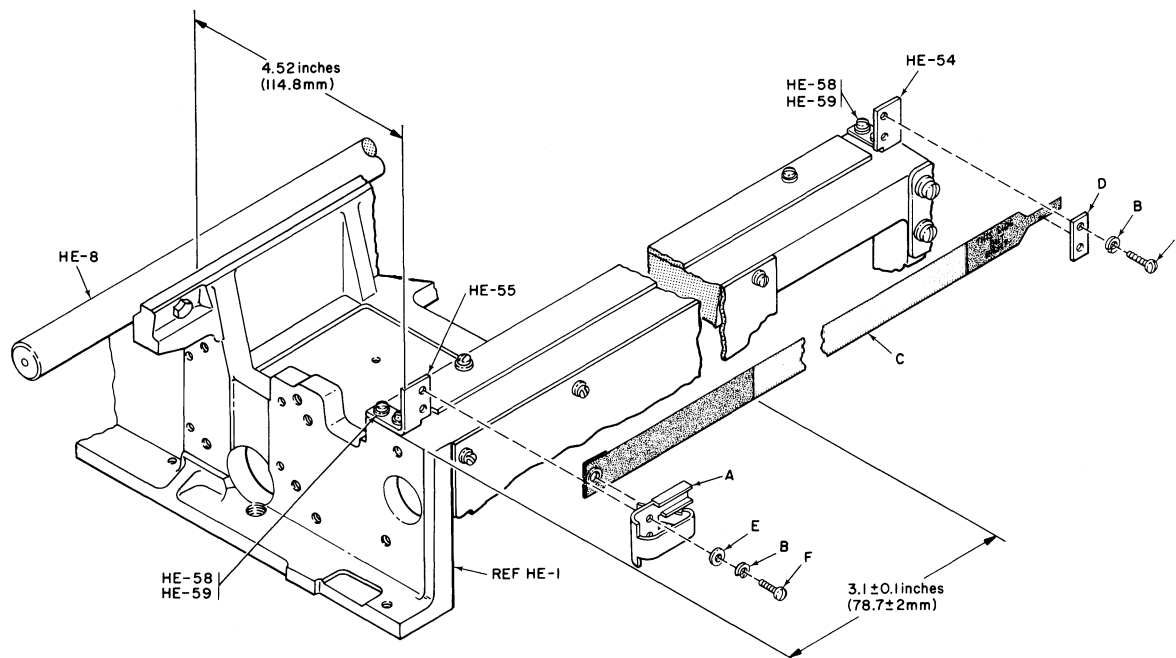

Figure 5-3. FLEXIBLE TIMING FENCE MOUNTING, SERIES 101
- A. The following removable parts are not described in a disassembly/assembly order but their locations are on the Frame (HE) drawing with their key numbers.
- B. Installation of Flexible Timing Fence 63002440 (Fig. 8-6 and Fig. 5-3)
1. Mount spring clasp (Fig. 5-3/A) on left bracket support (HE-55) using two screws (Fig. 5-3/F), two split lockwashers (Fig. 5-3/B) and two flat washers (Fig. 5-3/E). Clasp should be horizontal and perpendicular to printer machine casting (HE-1) when mounted on left bracket support (HE-55).
2. Mount right bracket clamp (Fig. 5-3/D) using two screws (Fig. 5-3/F) and two split lockwashers (Fig. 5-3/B).
3. Mount left side of flexible timing fence behind clasp (Fig. 5-3/A) by placing mounting hole over spring projection pointing towards back of printer.
4. Insert right side of flexible fence (tab end) between right clamp (Fig. 5-3/D) and right mounting bracket (HE-54). Right side surface of fence should read "THIS SIDE OUT, RIGHT" (facing operator).
1. Loosen screws (Fig. 5-3/F) on clamp (Fig. 5-3/D) and pull tab of fence to the right so that the first window of the fence is located 3.1 ± 0.1 inches (78.7 ± 2 mm) from edge of printer casting (See Fig. 5-3, Ref. HE-1). (Note that this dimension adjusts for a 5/8-inch print margin on printing form).
1. From the front edge of guide bar (HE-8) (Fig. 5-3) measure 4.52 inches (114.8 mm) out to the left and right edges of the fence. Do not exceed given dimensions.
2. If parallelism is not uniform along entire length of fence, loosen screws and washers (Fig. 5-3), (HE-58, 59) in either left or right bracket (HE-55, 54) and obtain equal measurement: at both ends. Tighten hardware when correct dimensions have been obtained.